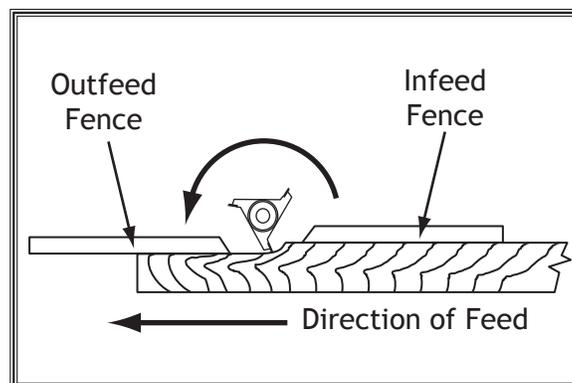

Figure 47. Fence boards correctly positioned for full edge cutting.
8. Adjust and secure the outfeed fence to support the profiled edge of the stock, as illustrated in **Figure 47**.